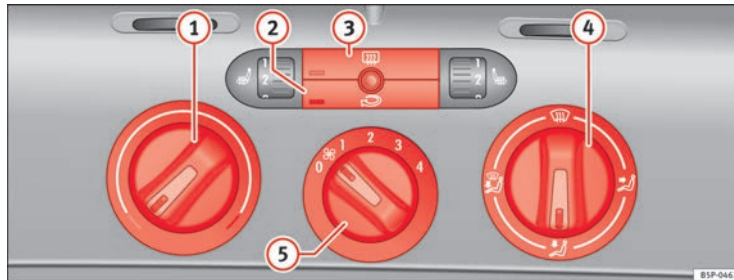

Fig. 124 Heating controls on the dash panel
- Use the knobs ⇒ Fig. 124 ① and ④ and control ⑤ to set the temperature, air distribution and blower speed.
- To switch a function on or off, press the appropriate button ② or ③. When the function is activated, the display window in the lower left of the button is lit.